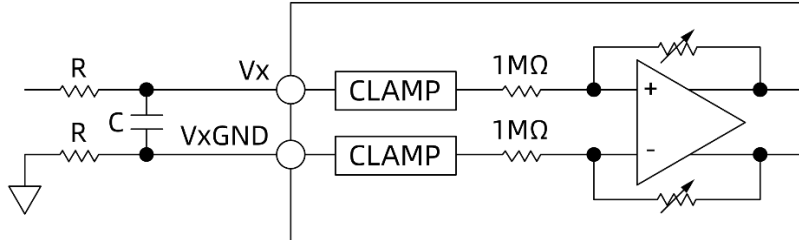

Figure 55. GD30AD3380 Analog Input
It is recommended to place a series resistor on the analog input channel to limit the current to ± 10 mA when the input voltage is greater than ± 25 V. In applications where there is a series resistor (R) on the analog input channel V_x , it is recommended that the resistor (R) be matched to the resistor on $V_x\text{GND}$ to eliminate any offset introduced into the system, as shown in Figure 55. However, in software mode, a per-channel system offset calibration can eliminate the offset of the entire system (see the System Calibration Features section).